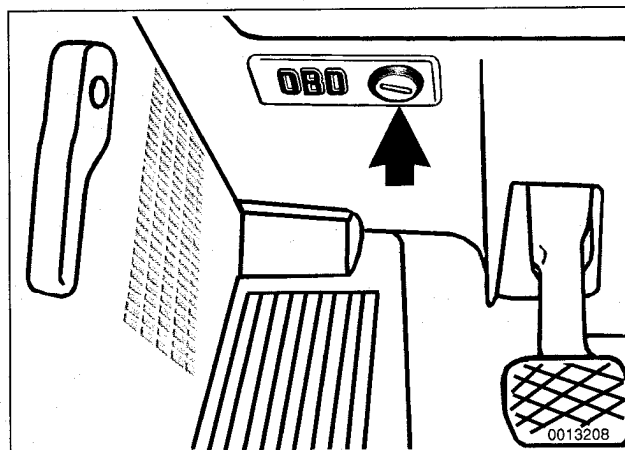

Fig. 1. OBD II diagnostic connector location.
- The 16-pin OBD II diagnostic connector is located on the lower left dash panel. Refer to Fig. 1.
- The 16-pin OBD II diagnostic connector is located on the lower left dash panel. See **Fig. 1**.